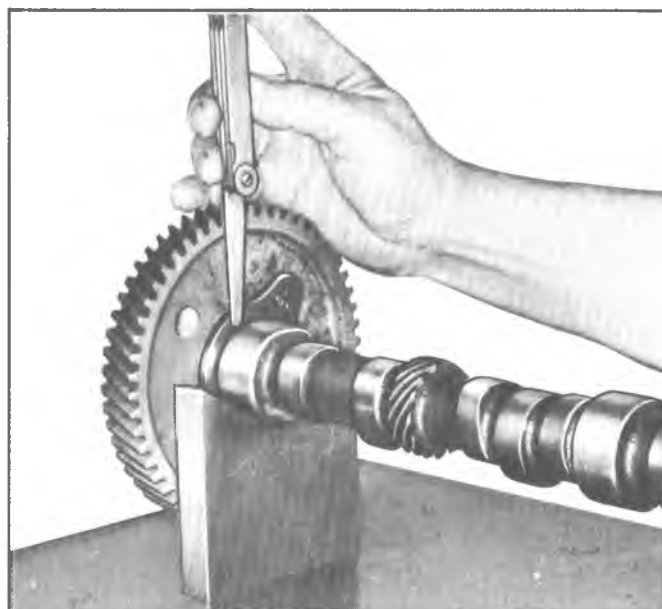

Fig. 64—Measuring Camshaft End Play
The camshaft should also be checked for alignment. The best method is by use of "V" blocks and a dial indicator (fig. 64). The dial indicator will indicate the exact amount the camshaft is out of true. If it is out more than .0015" dial indicator reading, the camshaft should be replaced.
On In-Line engines inspect the camshaft gear and thrust plate for wear or damage. Measure the camshaft end play. This should be .001" to .005" (fig. 64).
4. Place gear spacer ring and thrust plate over end of shaft, and install woodruff key in shaft keyway. Install camshaft gear and press it onto the shaft until it bottoms against the gear spacer ring. The end clearance of the thrust plate should be .001" to .005" (fig. 64).